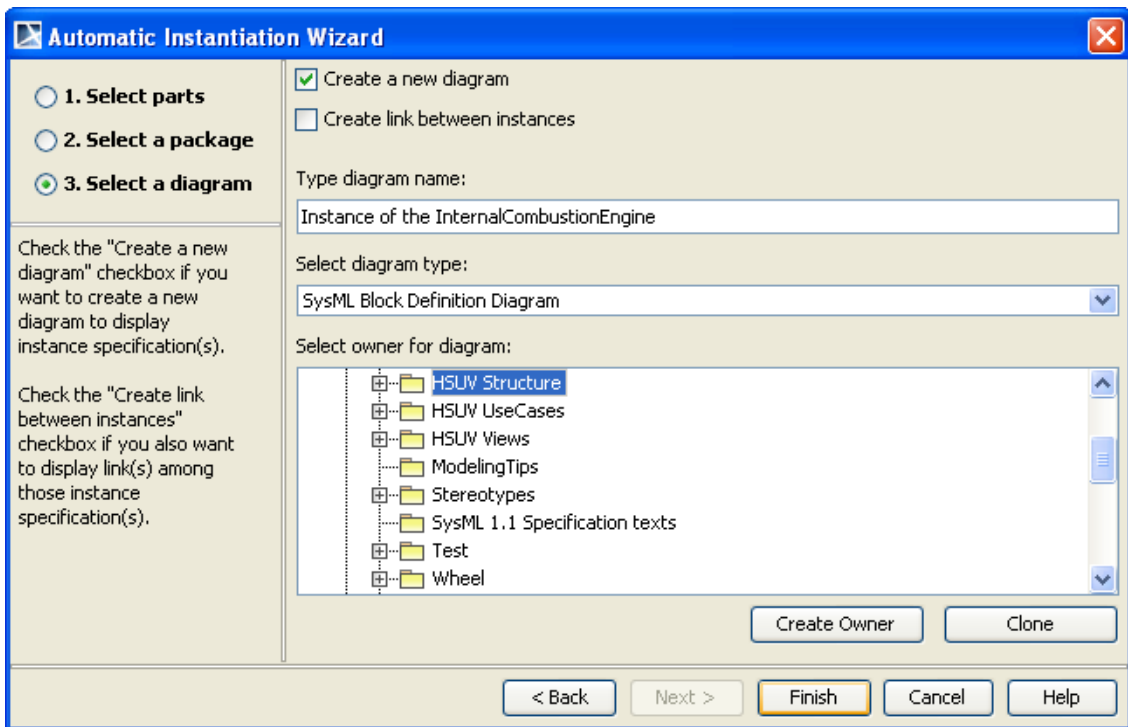
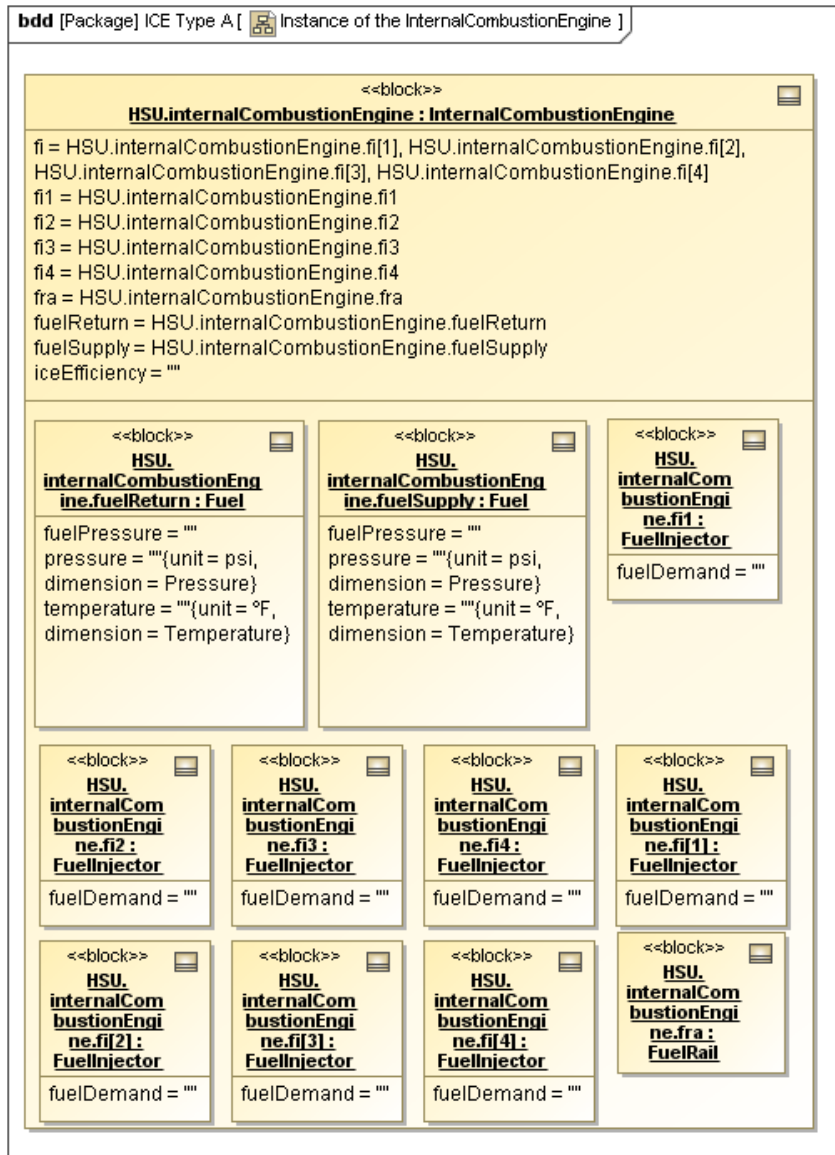
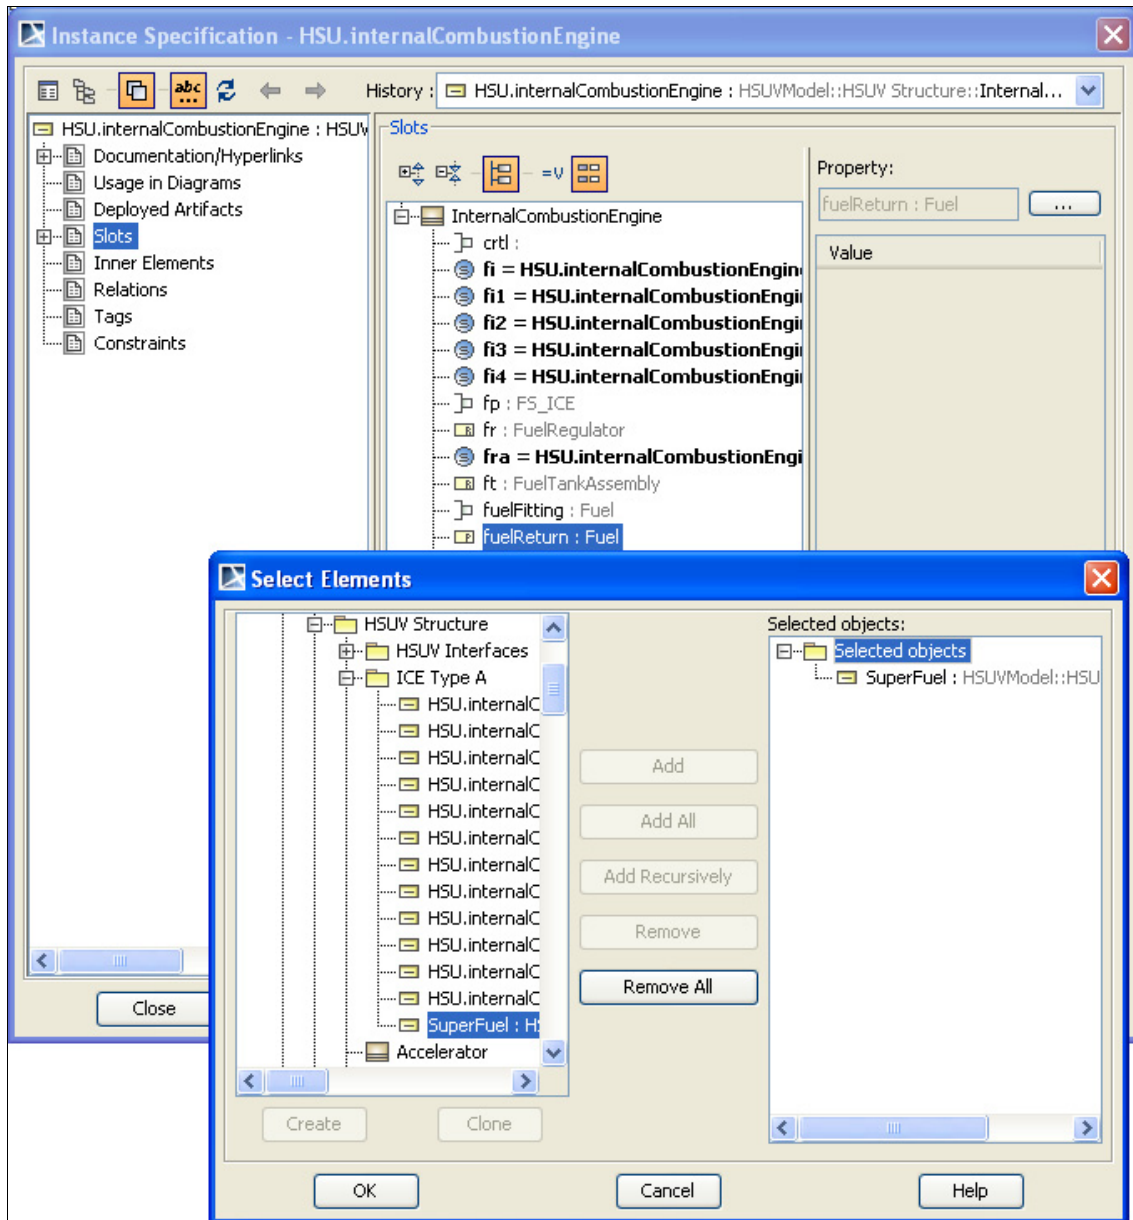
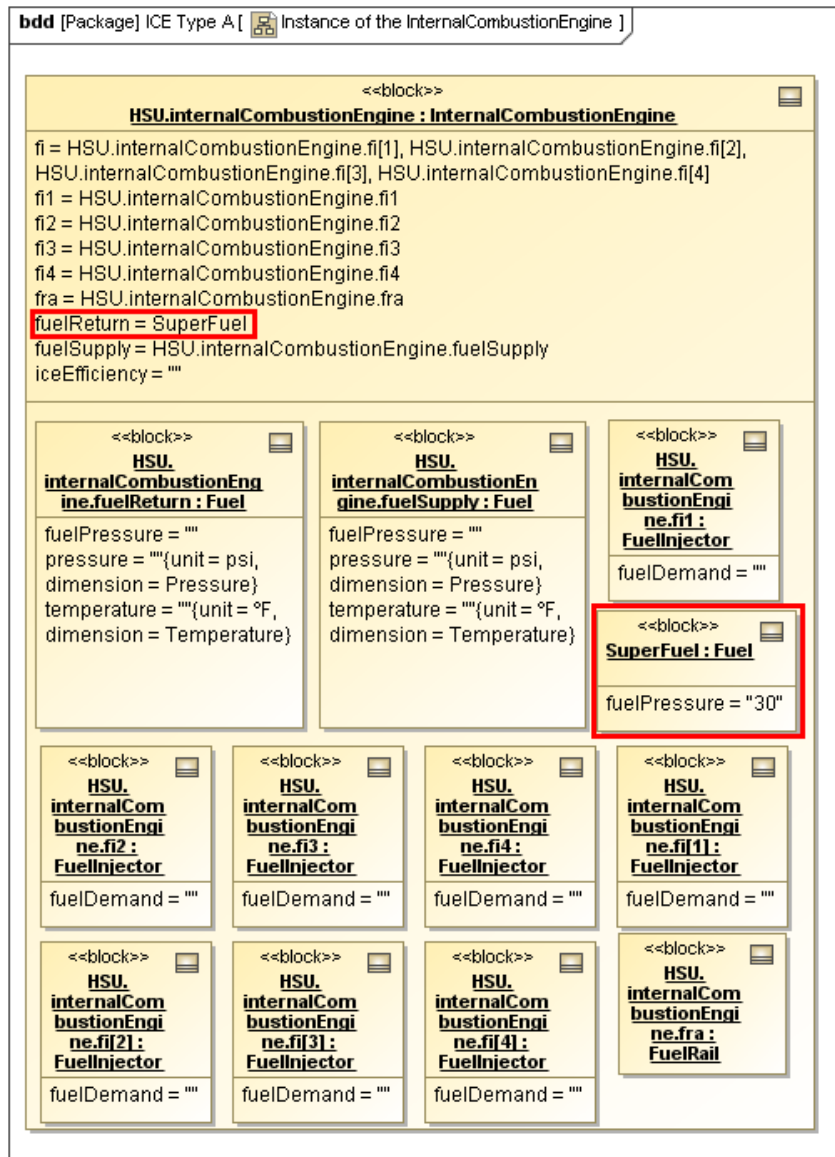

Figure 33 -- Automatic Instantiation Wizard - Step 3. Select a Diagram
Figure 34 -- Example of Instance Created by Automatic Instantiation Wizard
Figure 35 -- Changing Slot Value of "fuelReturn" Property
Figure 36 -- Resulting Instances After Changing Slot Value of “fuelReturn” Property
8. In **Step 3 (Select a diagram)**, select the **Create shape on new diagram** check box to create a new diagram to display instance specifications (Figure 33).
10. Click **Finish** to create the instance specifications and diagram (Figure 33). The Instance specifications will be created and displayed in the chosen diagram (Figure 34).
11. You can reassign some values, for example, if you like to use “SuperFuel” for “fuelReturn” instead, then reassign the **fuelReturn** slot in the HSU.internalCombustionEngine : InternalCombustionEngine instance specification (Figure 34) to **SuperFuel**, a Fuel kind with a specific fuelPressure (Figure 35). The newly-created diagram will look like the one in Figure 36.